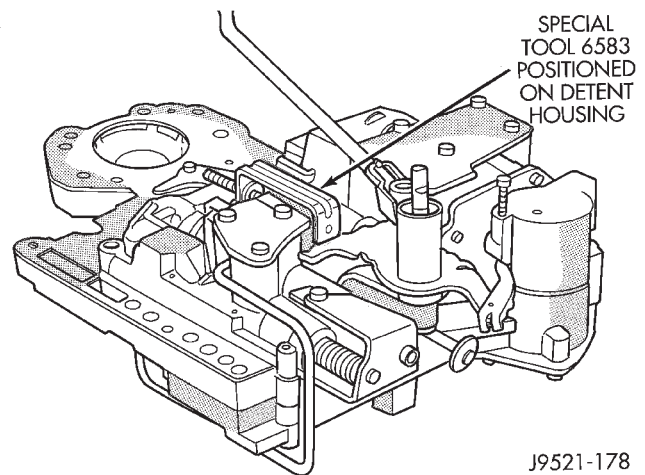
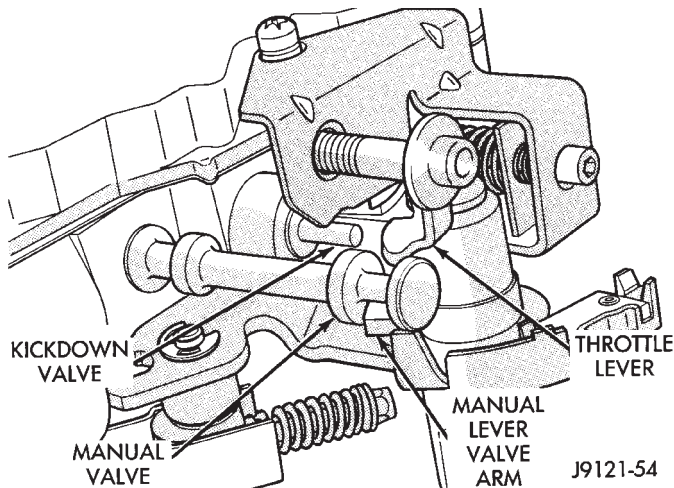
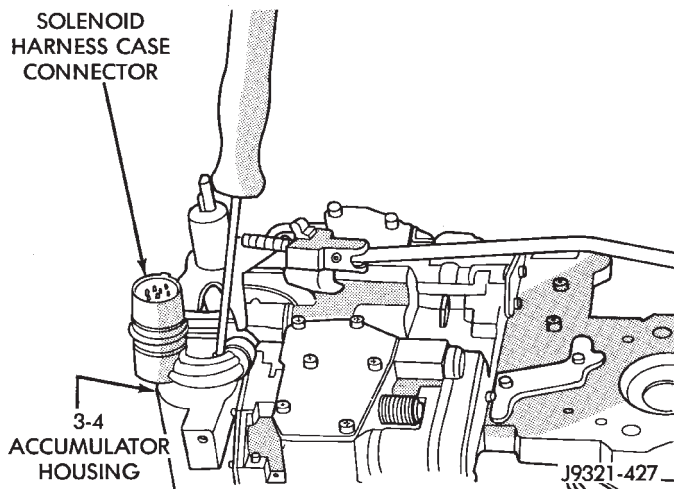
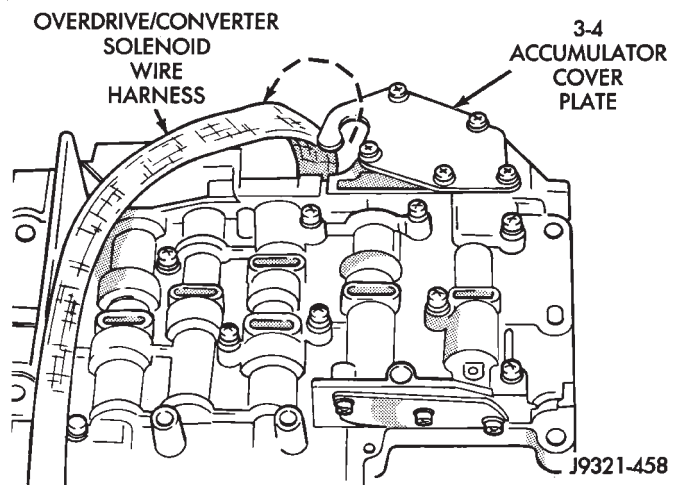

Fig. 93 Detent Ball Spring
Fig. 94 Manual And Throttle Lever Alignment
Fig. 95 Solenoid Harness Case Connector Shoulder Bolt
Fig. 96 Solenoid Harness Routing
(1) Install boost valve, valve spring, retainer and cover plate. Tighten cover plate screws to 4 N·m (35 in. lbs.) torque.
(2) Insert manual lever detent spring in upper housing.
(3) Position detent ball on end of spring. Then hold detent ball and spring in detent housing with Retainer Tool 6583 (Fig. 93).
(4) Install throttle lever in upper housing. Then install manual lever over throttle lever and start manual lever into housing.
(5) Align manual lever with detent ball and manual valve. Hold throttle lever upward. Then press down on manual lever until fully seated. Remove detent ball retainer tool after lever is seated.
(6) Then install manual lever seal, washer and E-clip.
(7) Verify that throttle lever is aligned with end of kickdown valve stem and that manual lever arm is engaged in manual valve (Fig. 94).
(8) Position line pressure adjusting screw in adjusting screw bracket.
(9) Install spring on end of line pressure regulator valve.
(10) Install switch valve spring on tang at end of adjusting screw bracket.
(11) Install manual valve.
(12) Install throttle valve and spring.
(13) Install kickdown valve and detent.
(14) Install pressure regulator valve.
(15) Install switch valve.
(16) Position adjusting screw bracket on valve body. Align valve springs and press bracket into place. Install short, upper bracket screws first and long bottom screw last. Verify that valve springs and bracket are properly aligned. Then tighten all three bracket screws to 4 N·m (35 in. lbs.) torque.
(17) Lubricate solenoid case connector O-rings and shaft of manual lever with light coat of petroleum jelly.
(18) Obtain new fluid filter for valve body but do not install filter at this time.
(19) If line pressure and/or throttle pressure adjustment screw settings were not disturbed, continue with overhaul or reassembly. However, if adjustment screw settings **were** moved or changed, readjust as described in Valve Body Control Pressure Adjustment procedure.
(20) Attach solenoid case connector to 3-4 accumulator with shoulder-type screw. Connector has small locating tang that fits in dimple at top of accumulator housing (Fig. 95). Seat tang in dimple before tightening connector screw.
(21) Install solenoid assembly and gasket. Tighten solenoid attaching screws to 8 N·m (72 in. lbs.) torque.
(22) Verify that solenoid wire harness is properly routed (Fig. 96). **Solenoid harness must be clear of manual lever and park rod and not be pinched between accumulator housing and cover.**